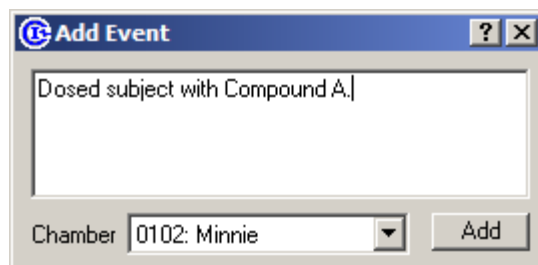

Figure 45 - Add Event Prompt
1. Click “Add Event” from the main “Experiment” OxyMax menu to display the “Add Event” prompt as in Figure 45.